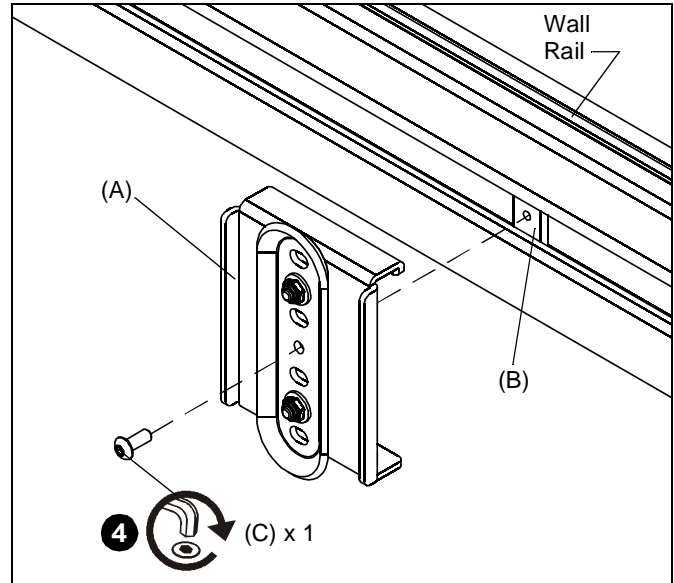

Figure 3
4. Attach adapter bracket (A) with mount wall bracket to wall rail through adapter latch (B) using one 10-24 x 1/2" button head cap screw (C). (See Figure 3)